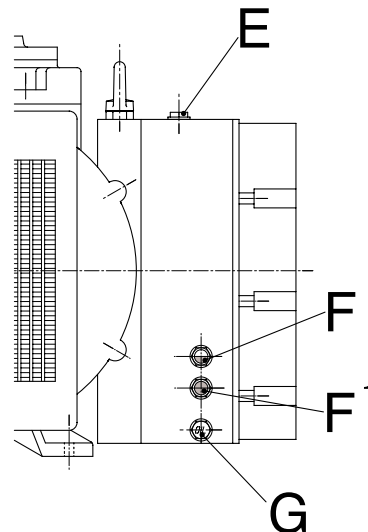

Fig.8
Carry out the first filling up through the plug (E) up to the half of the sight glass (F) and close the plug (E) (Figure 8).